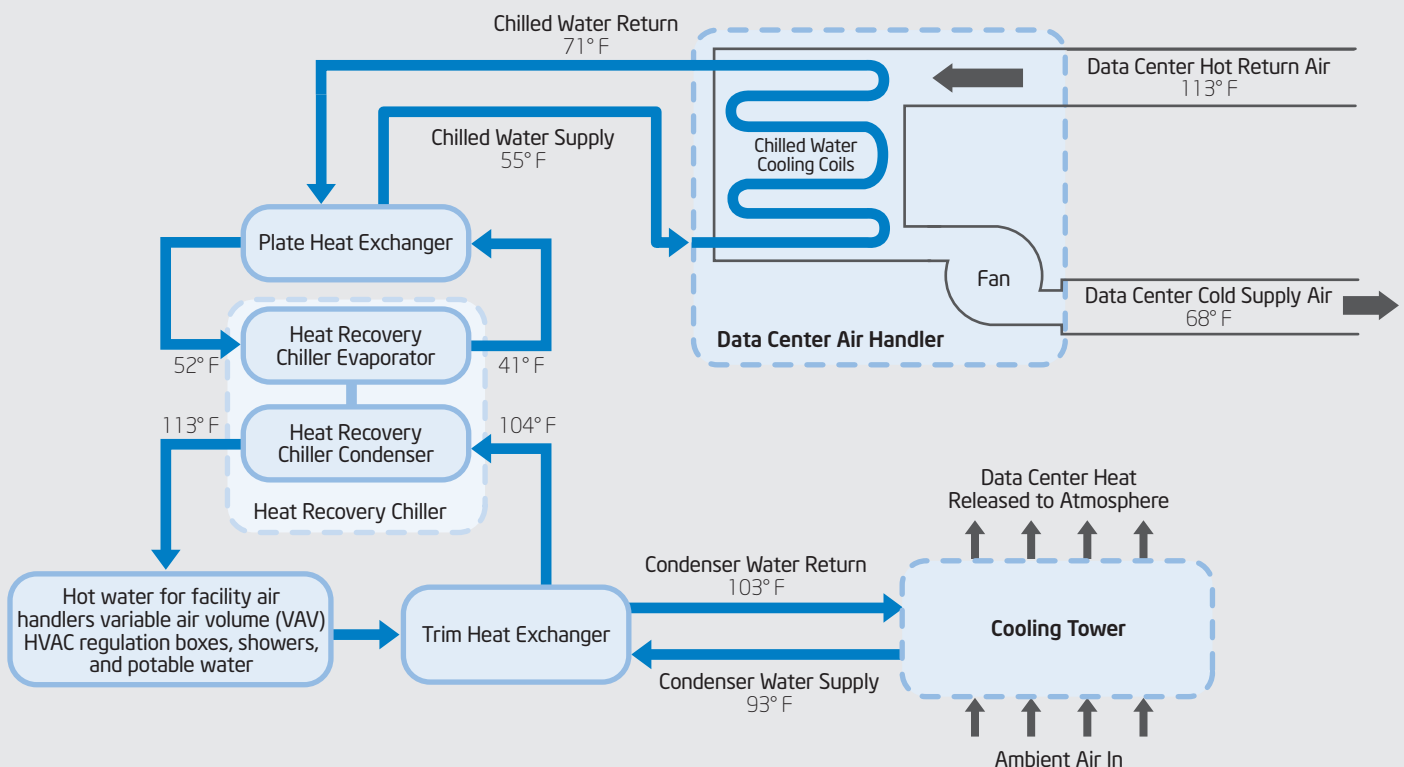

Figure 2. Our heat recovery system.
The system employs heat recovery (HR) chillers, shown in Figure 2, to capture heat produced by data center servers and other equipment. This heat warms the rest of the building in winter and provides year-round hot water for bathroom and kitchen use.
We looked for an energy-efficient way to heat the offices during the winter and to provide hot water for the bathrooms and kitchen year round. We wanted to avoid using energy-consuming gas or fuel oil boilers, while reducing the total operational cost of the HVAC systems that cooled the facility and data center. The best overall value appeared to be offered by HR chillers. They recover data center waste heat, producing hot water for building heating systems by modifying a chilled water system, like the one shown in Figure 1 into a heat recovery system like the one shown in Figure 2. This system uses the hot condenser water instead of directly releasing it to the atmosphere via the cooling towers.
Our system is shown in Figure 2. The building will use two chilled water loops. A high-temperature loop producing water at 55° F supplies the data center air handlers, and a low-temperature loop producing chilled water at 41° F supplies the rest of the building.